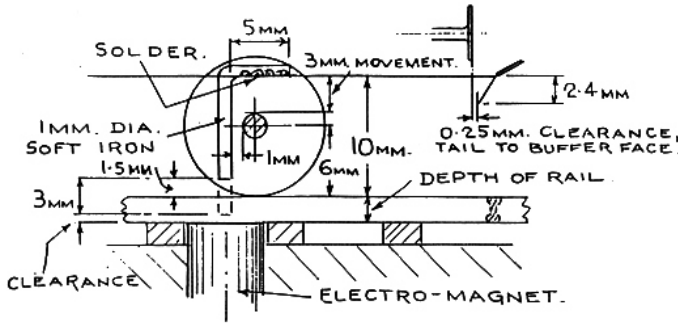

FIG 11. WAGONS. (12MM.DIA.WHEEL.)
The finished form of the dropper by which the coupling is drawn down by the magnet is shown in Figs. 11 & 12. It can be made from soft iron wire obtained from an ordinary paper clip, one of which, when straightened, will make several armatures (a new method is discussed later). Solder each armature in a position, as shown in the drawing, with the vertical arm on the inside of the axle, trimmed to
*Fig. 11* shows that in relation to a 12mm diameter wheel there will be a permissible downwards movement of 3mm, the axle acting as a stop when the coupling is in the lower position. There should be a minimum of 0.5mm (0.020in) clearance between the tip of the dropper leg and the magnet face.